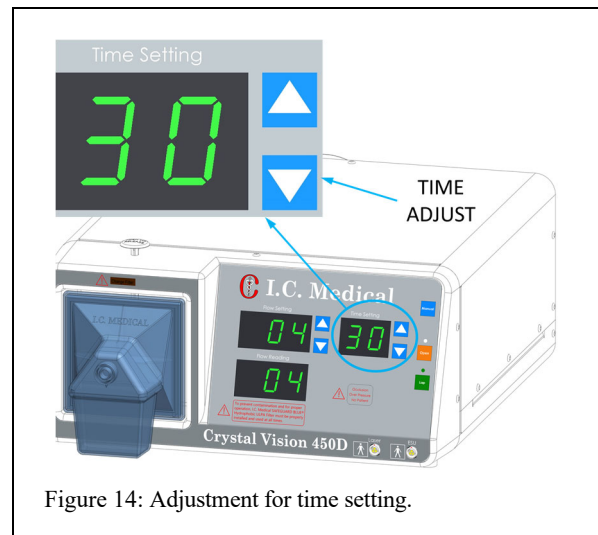

Figure 14: Adjustment for time setting.
5. TIME SETTING Buttons (Up and Down arrows) (Figure 14) varies the amount of time that the CRYSTAL VISION® continues to draw smoke, vapor, and gases from the surgical site. The low flows into the pneumoperitoneum limit the amount of gas that can be evacuated from the pneumoperitoneum without causing the abdomen to deflate. In cases such as this, it is very useful to limit the flow rate to a value that can be supplied by the insufflator. To extend the amount of time that the CRYSTAL VISION® operates after the foot pedal (or hand switch) is released. This allows for a greater volume of gas to be eliminated from the abdomen and therefore reduces the amount of residual smoke that is left in the abdomen. The ideal situation is to increase the amount of flow into the abdomen. See the highlighted box titled "FOR BEST RESULTS" in the LAPAROSCOPIC OPERATION section that follows.
TIME DISPLAY (METER) (Figure 14) indicates the amount of time that the CRYSTAL VISION® will operate after the foot switch, or hand switch, is deactivated (2 sec min- 30 sec max)